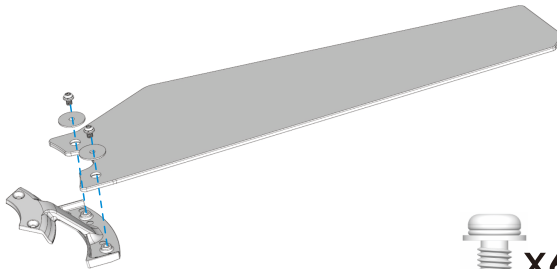

Fig. 1.1
1.1 Locate the blade attachment screws and washers included in the hardware pack. Use these screws and washers to firmly attach each blade to the blade bracket, as demonstrated in Fig. 1.1.